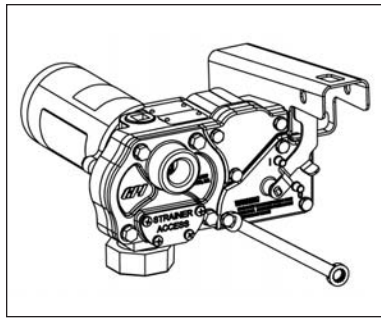

Figure 15
- Remove the switch coverplate from the pump housing. (Figure 15)